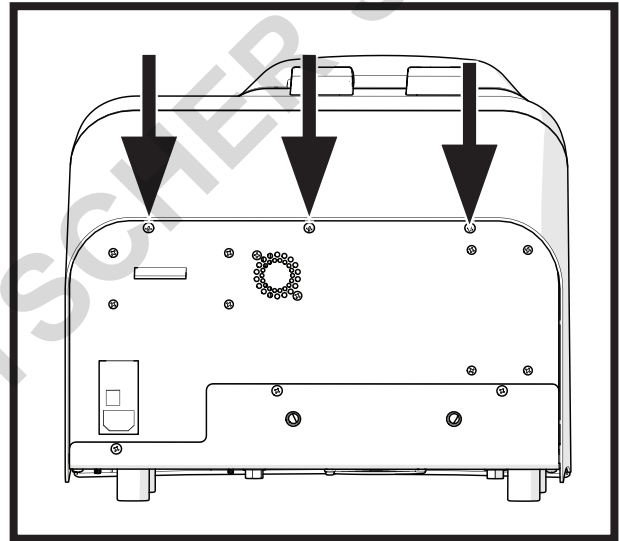

Figure 8
3. Remove (3) screws on back of housing with #2 Phillips (Figure 8).